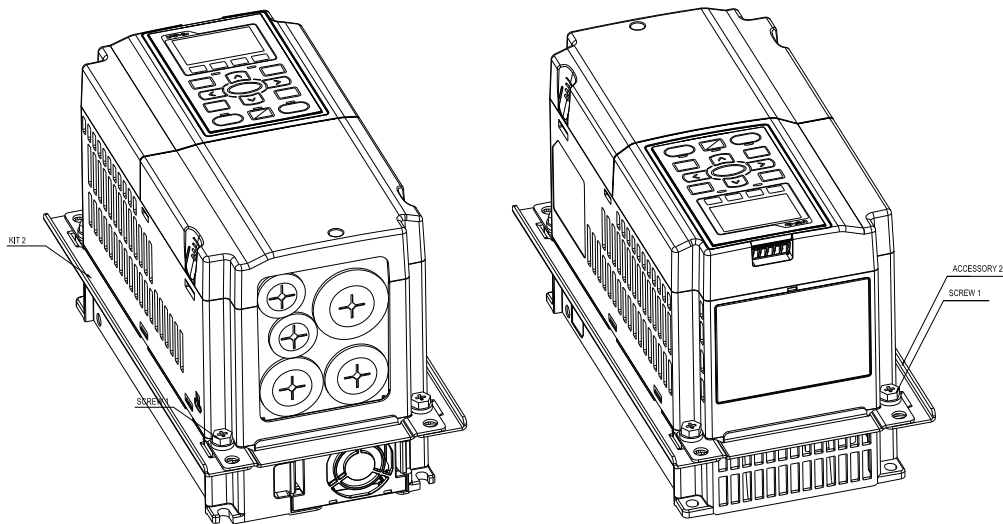

Figure 2
2. Fasten screw\*2 (M6) and accessory 2 & 3. Screw torque: 25~30 kg-cm / [21.7~26 lb-in.] / [2.5~2.9 Nm] (figure 2)